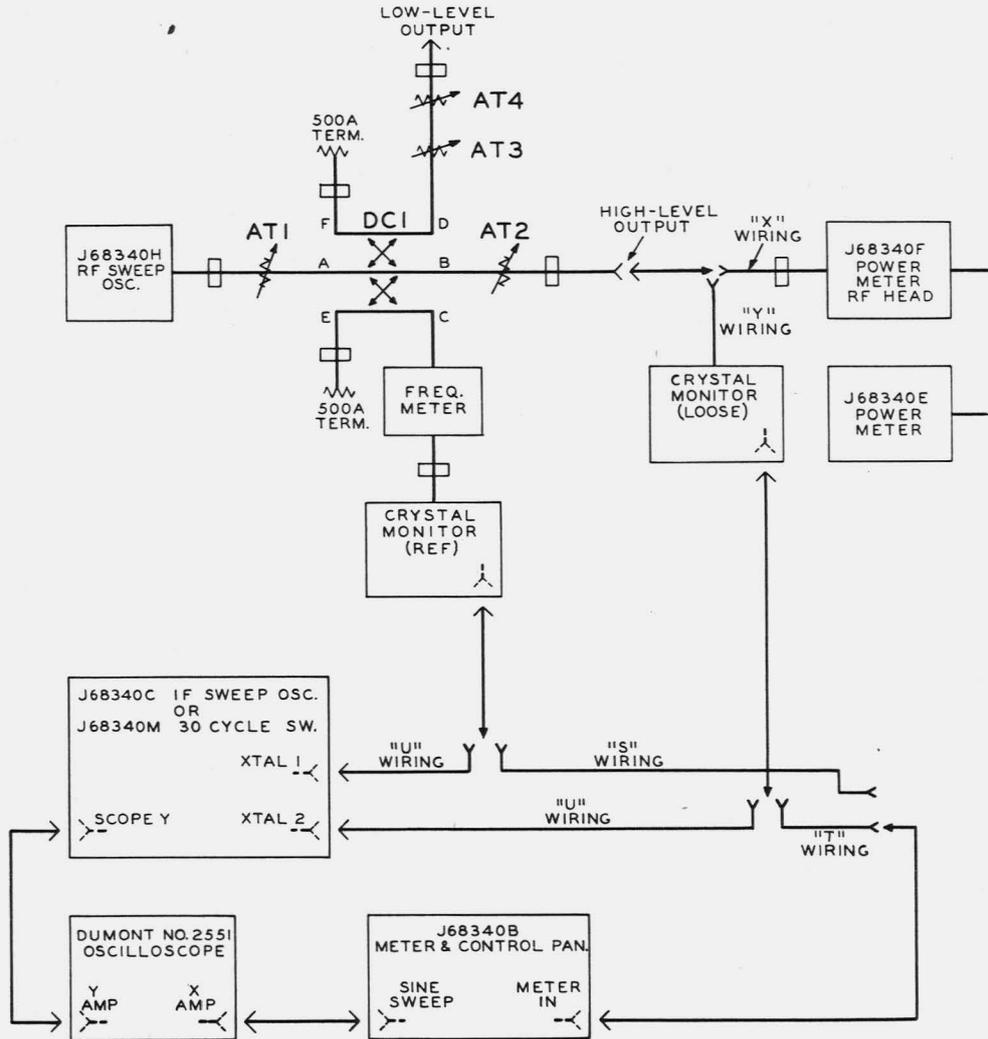

Fig. 17 - Test Circuit for RF Sweep Oscilloscope and Waveguide Components
(1) Set up the circuit of Fig. 17, using "X" wiring. Turn on and adjust the RF sweep oscillator in accordance with Section R70.202. AT2 should be set to 20 db, and AT1 adjusted for a power meter reading of 0 dbm. The power output of the RF sweep oscillator in dbm is the sum of the settings of AT1 and AT2.
(1) Set up the circuit of Fig. 17, using "Y" and "U" wiring. The phase of the sine wave sweep voltage should be adjusted as described in par. 2.04. Set AT1 to about 10 db and AT2 to 20 db. The RF oscillator should be sweeping over about a 40 MC band. Adjust the frequency meter, the oscilloscope gain and the ADJ XTAL 1 control so that the two sweep traces are separated somewhat, with the frequency meter pip visible. Turn the oscilloscope blanking off and consider one of the traces. Two frequency meter pips will be visible: one normally visible and the other normally blanked out as the oscillator is sweeping in the reverse direction. Set the horizontal gain of the oscilloscope so that the horizontal trace under consideration is exactly 3 inches long.
(2) Turn the frequency meter toward one end of the band. The pips should travel toward one end of the trace, merge as one at the extreme end of the trace, and then disappear. This should also occur as the frequency meter is tuned toward the other end of the band. If either point at which the pips merge is not within 0.2 inch of the end of the trace, the RF sweep oscillator should be returned to the Western Electric Co. for repair and readjustment.
(3) In actual operation of the RF sweep oscillator, slight errors in phase between the sine wave sweep voltage (as adjusted in par. 2.02)
(1) Set up the circuit of Fig. 17, using "x" wiring only. Set AT2 to 20 db, and adjust AT1 to obtain 0 dbm on the power meter. The RF oscillator should be set at about 3950 mc, with no sweep.
(2) Insert the attenuator to be tested between the high-level RF output of the test bay and the RF head of the power meter. Set the attenuator under test to zero loss, and note that the power meter again indicates 0 dbm. For each value of the unknown attenuation to be measured, reduce AT2 to maintain 0 dbm on the power meter. The unknown loss is the difference between the two settings of AT2.
(3) This is not an accurate measurement of attenuation; it is merely a comparison with a unit assumed to be correct. If two attenuators per ED-63927-01 are being compared, a discrepancy of more than 0.5 db is an indication that one or both are outside their rated limits and should be compared further with other units or returned to the Western Electric Co. for repair and calibration.
(1) Set up the circuit of Fig. 17, using "x" wiring. Set AT2 equal to the directional coupler loss indi-
(1) Using the circuit of Fig. 17, with "X" wiring, set AT2 to the loss of